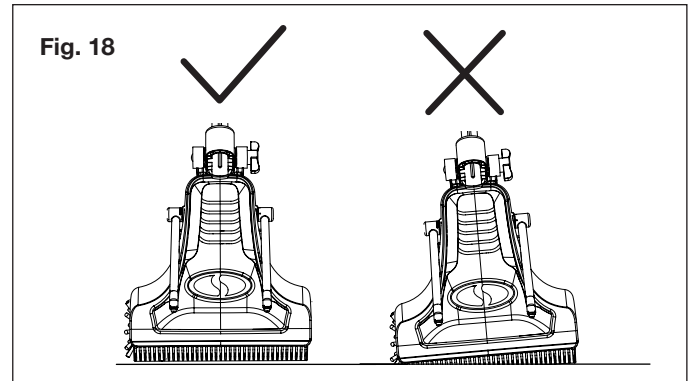

Fig. 18
2. Before starting, position the unit and make sure the brushes are evenly placed on the surface to be cleaned (Fig. 18).